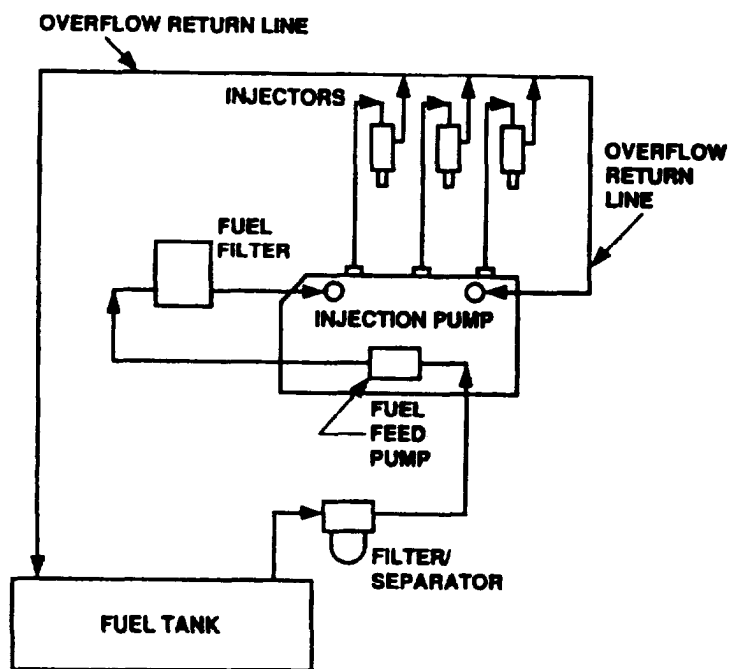

Figure 1-4. Fuel System Functional Diagram.
**1.14.2.4 Fuel System.** The fuel system is connected to the fuel tank and provides fuel to the engine. Figure 1-4 provides a functional diagram of the fuel system. When the engine is cranked or operating, the fuel feed pump draws fuel through the filter/separator that filters solid contaminants larger than one micron in size from the fuel. In addition, filter/separator removes water from the fuel. After the filter/separator, fuel is drawn to the fuel feed pump. The fuel feed pump is a diaphragm type pump actuated by a cam in the fuel injection pump. When activated, the fuel feed pump provides a positive head of pressure to the fuel injection pump via a fuel filter. The fuel filter provides additional filtering of the fuel before it enters the fuel injector pump. The fuel injection pump is a high pressure fuel delivery pump driven by a timing gear in the engine. The main shaft in the injection pump has cams which operate plungers. Plungers pump fuel into the injector nozzles. The amount of fuel injected into the nozzles is controlled mechanically. The fuel injector nozzles are single inlet, four outlet, high pressure injectors. High pressure injectors spray fuel directly into the engine cylinders. Overflow lines are provided to carry excess fuel that is not needed for combustion. The excess fuel is carried to the fuel tank and injection pump. Fuel is returned to the fuel tank by way of an overflow return fitting on the fuel tank.